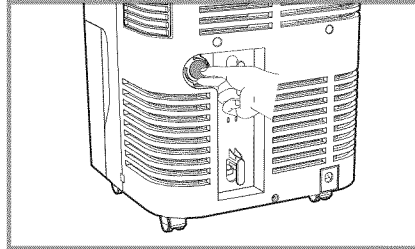

Fig.1
1. Take off GRAVITY DRAIN cap. (Fig.1)